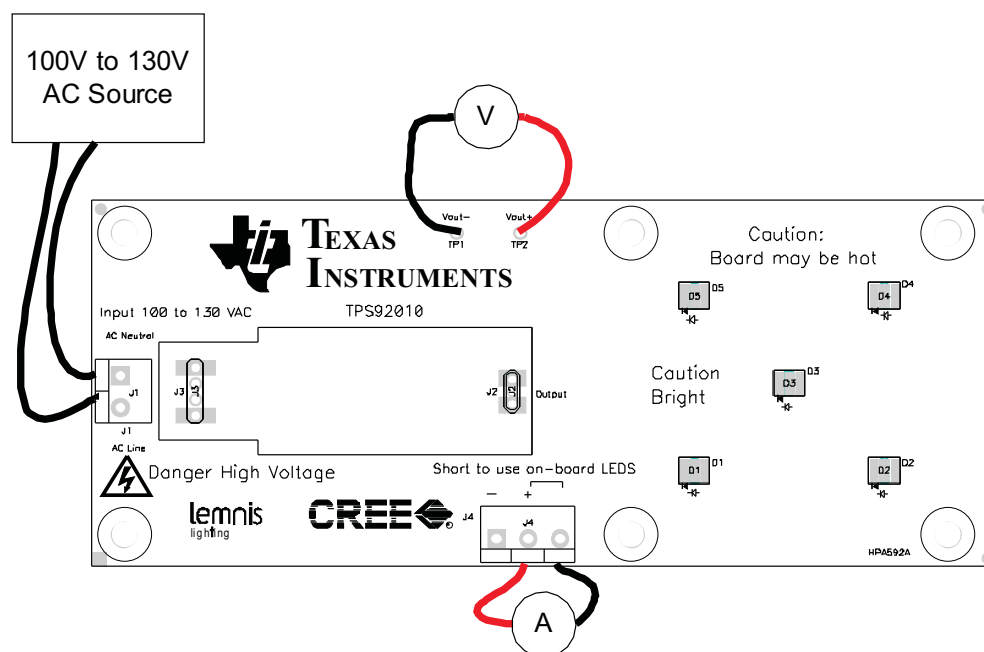
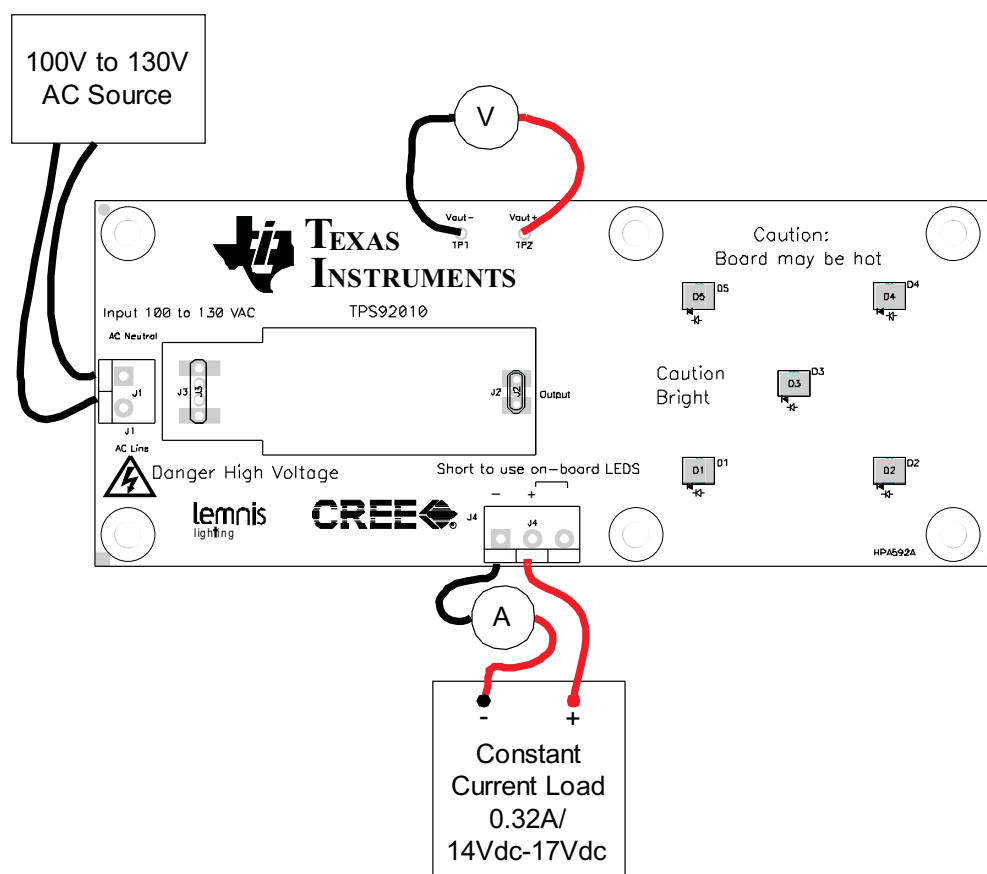

Figure 4. Recommended Test Set-Up Using Internal Load
Figure 5. Recommended Test Set-Up using External Load
To validate the EVM with an external load, pins 1 and 2 of J4 should be used. Any short between pins 2 and 3 should be removed to avoid damaging the EVM. See Figure 5.
1. Connect EVM per Figure 4 or Figure 5.
7. Shutdown equipment per Figure 5.
1. Set up the EVM per Figure 4 or Figure 5.